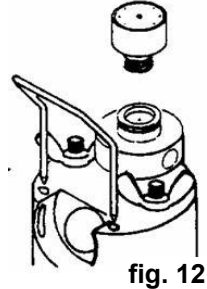

fig. 12
- Remove Air Regulation Screw and Locking Device. (fig. 12). Pull-out Air Regulation Case.